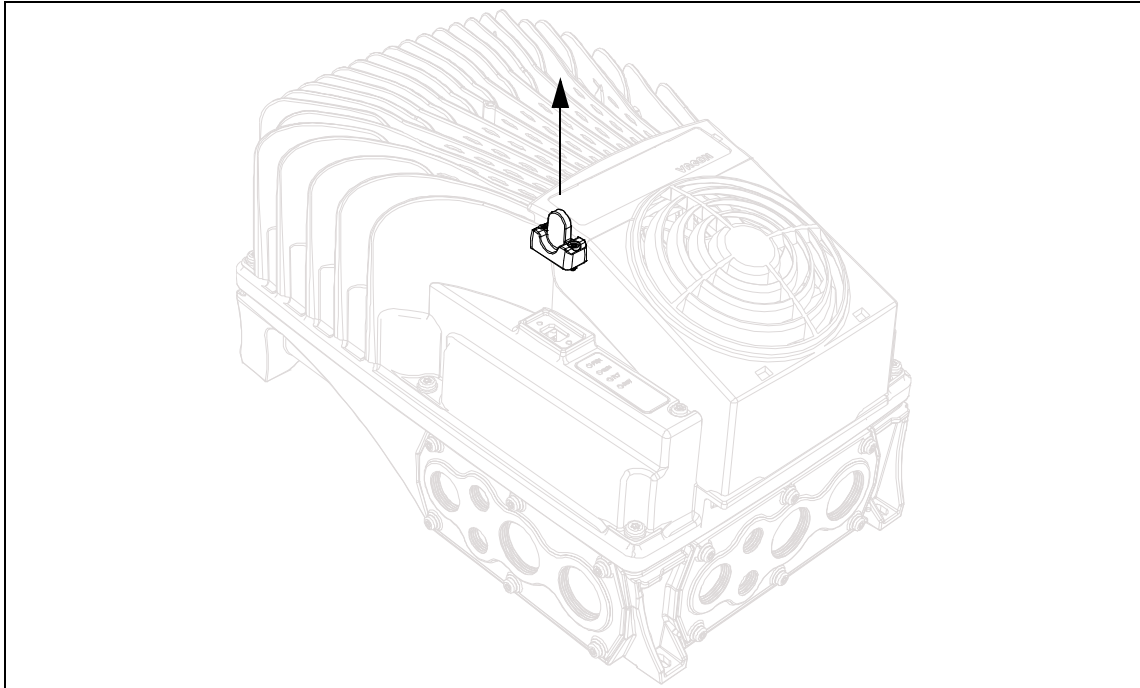

Figure 43. Disconnection of the HMI cap from the drive.
- Remove the HMI cap from the drive as shown in the Figure 43.